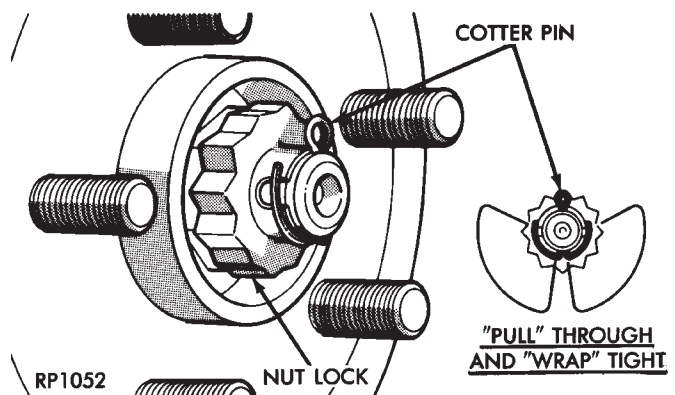

Fig. 55 Installing Spring Washer, Nut Lock And Cotter Pin
(12) With vehicle brakes applied to keep braking disc from turning, tighten hub nut to 203 N-m (150 ft. lbs.) of torque.
(13) Install the spring washer, hub nut lock, and new cotter pin. Wrap cotter pin prongs tightly around the hub nut lock (Fig. 55).